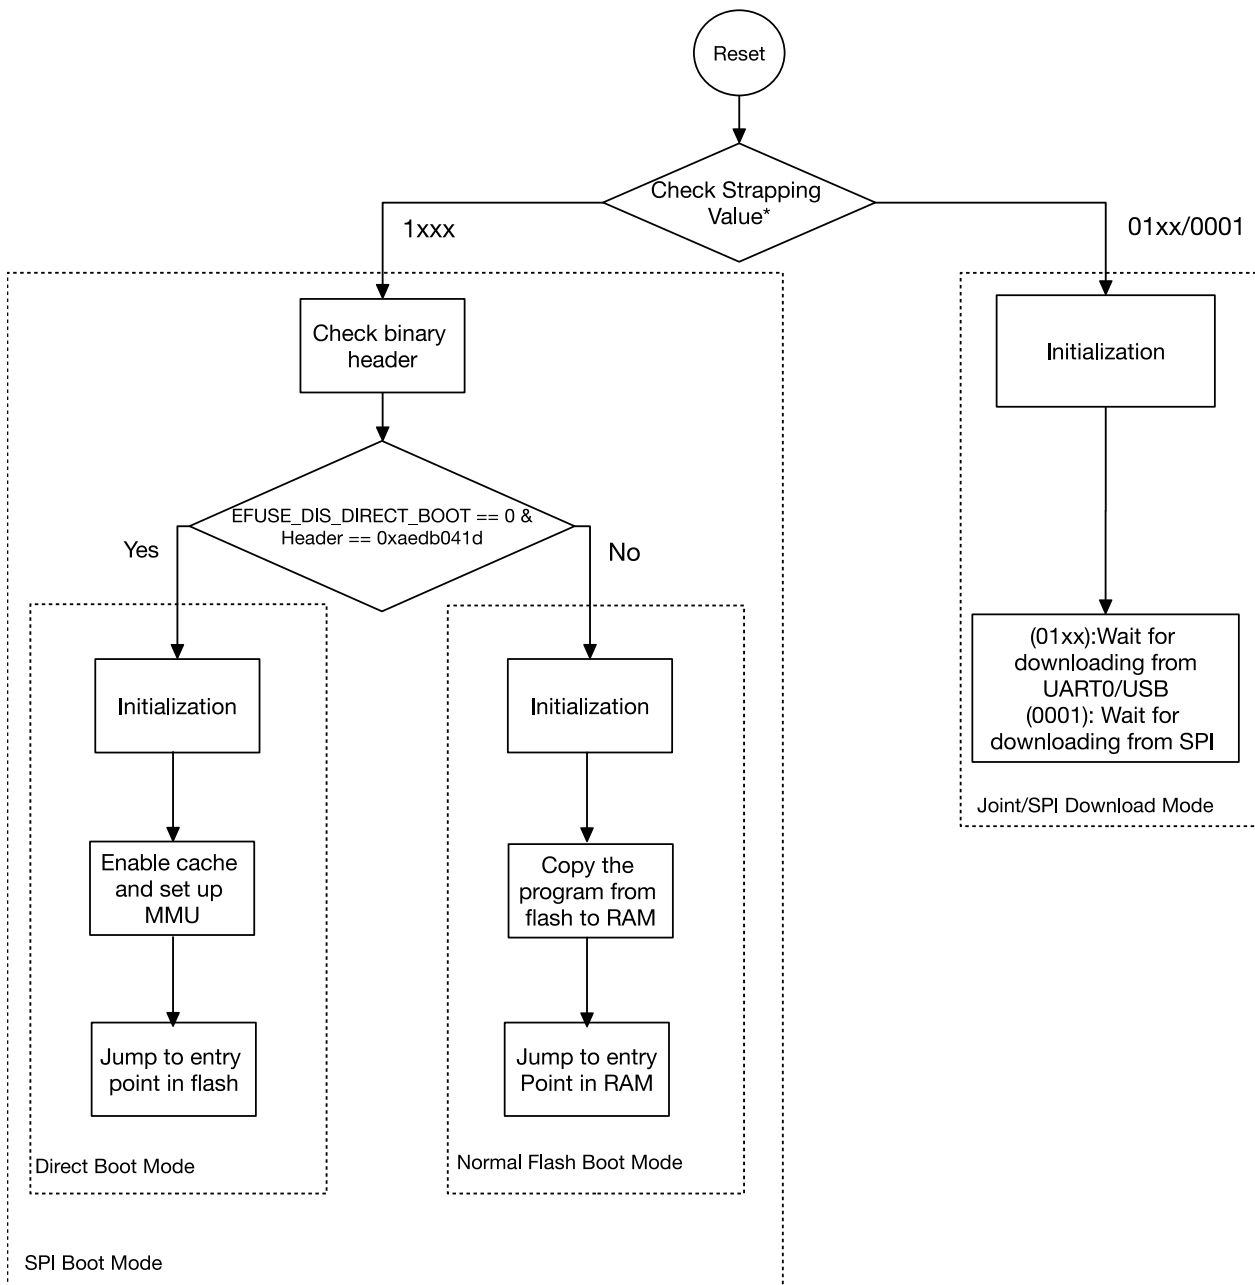

Figure 7.3-1. Chip Boot Flow
- Direct Boot: does not support Secure Boot and programs run directly from flash. To enable this mode, make sure that the first two words of the bin file downloaded to flash are 0xaedb041d. For more detailed process, see Figure 7.3-1.
Figure 7.3-1 shows the detailed boot flow of the chip.